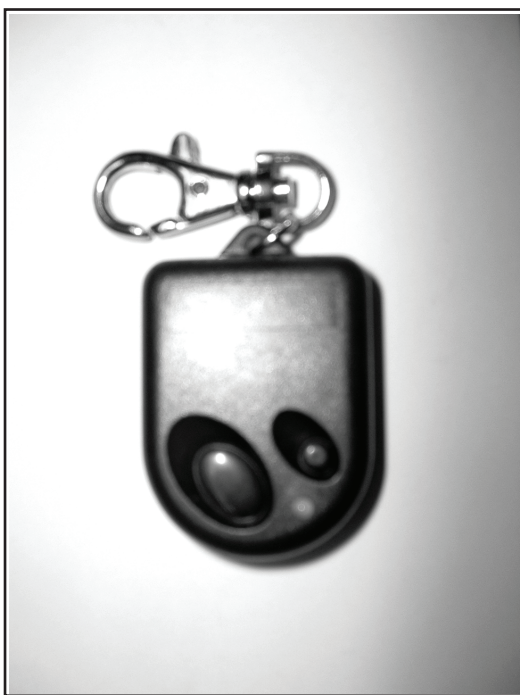

Figure 5-7 - Remote or Pendent Dump Controller
- Press and hold button (3) to raise the dump body. Release the button when the body has reached approximately the halfway point of its dumping angle, or if the load begins to shift rearward. Never leave the dump body control when operating the dump body. See figure 5-7.
- Press and hold button (4) to lower the dump body. See figure 5-7. Release the button when the dump body is fully lowered. Place dump body controller in the battery box and turn off wireless remote (if equipped).